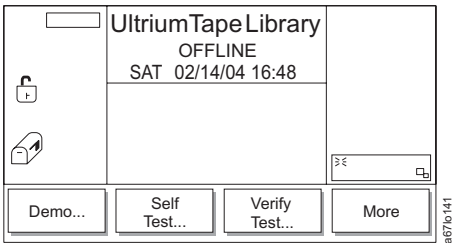

Figure 4-182. Exercise Submenu
3. Press the button below the **Exercise** softkey. The Exercise Submenu displays (see Figure 4-182).